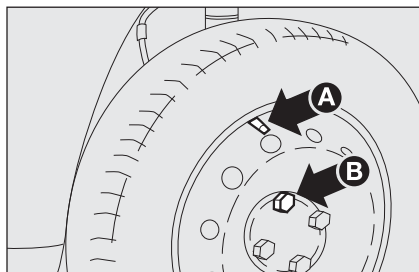

fig. 10
- ☐ fit the standard wheel by inserting the first stud **B-fig. 10** for two threads in the hole closest to the inflation valve **A**;